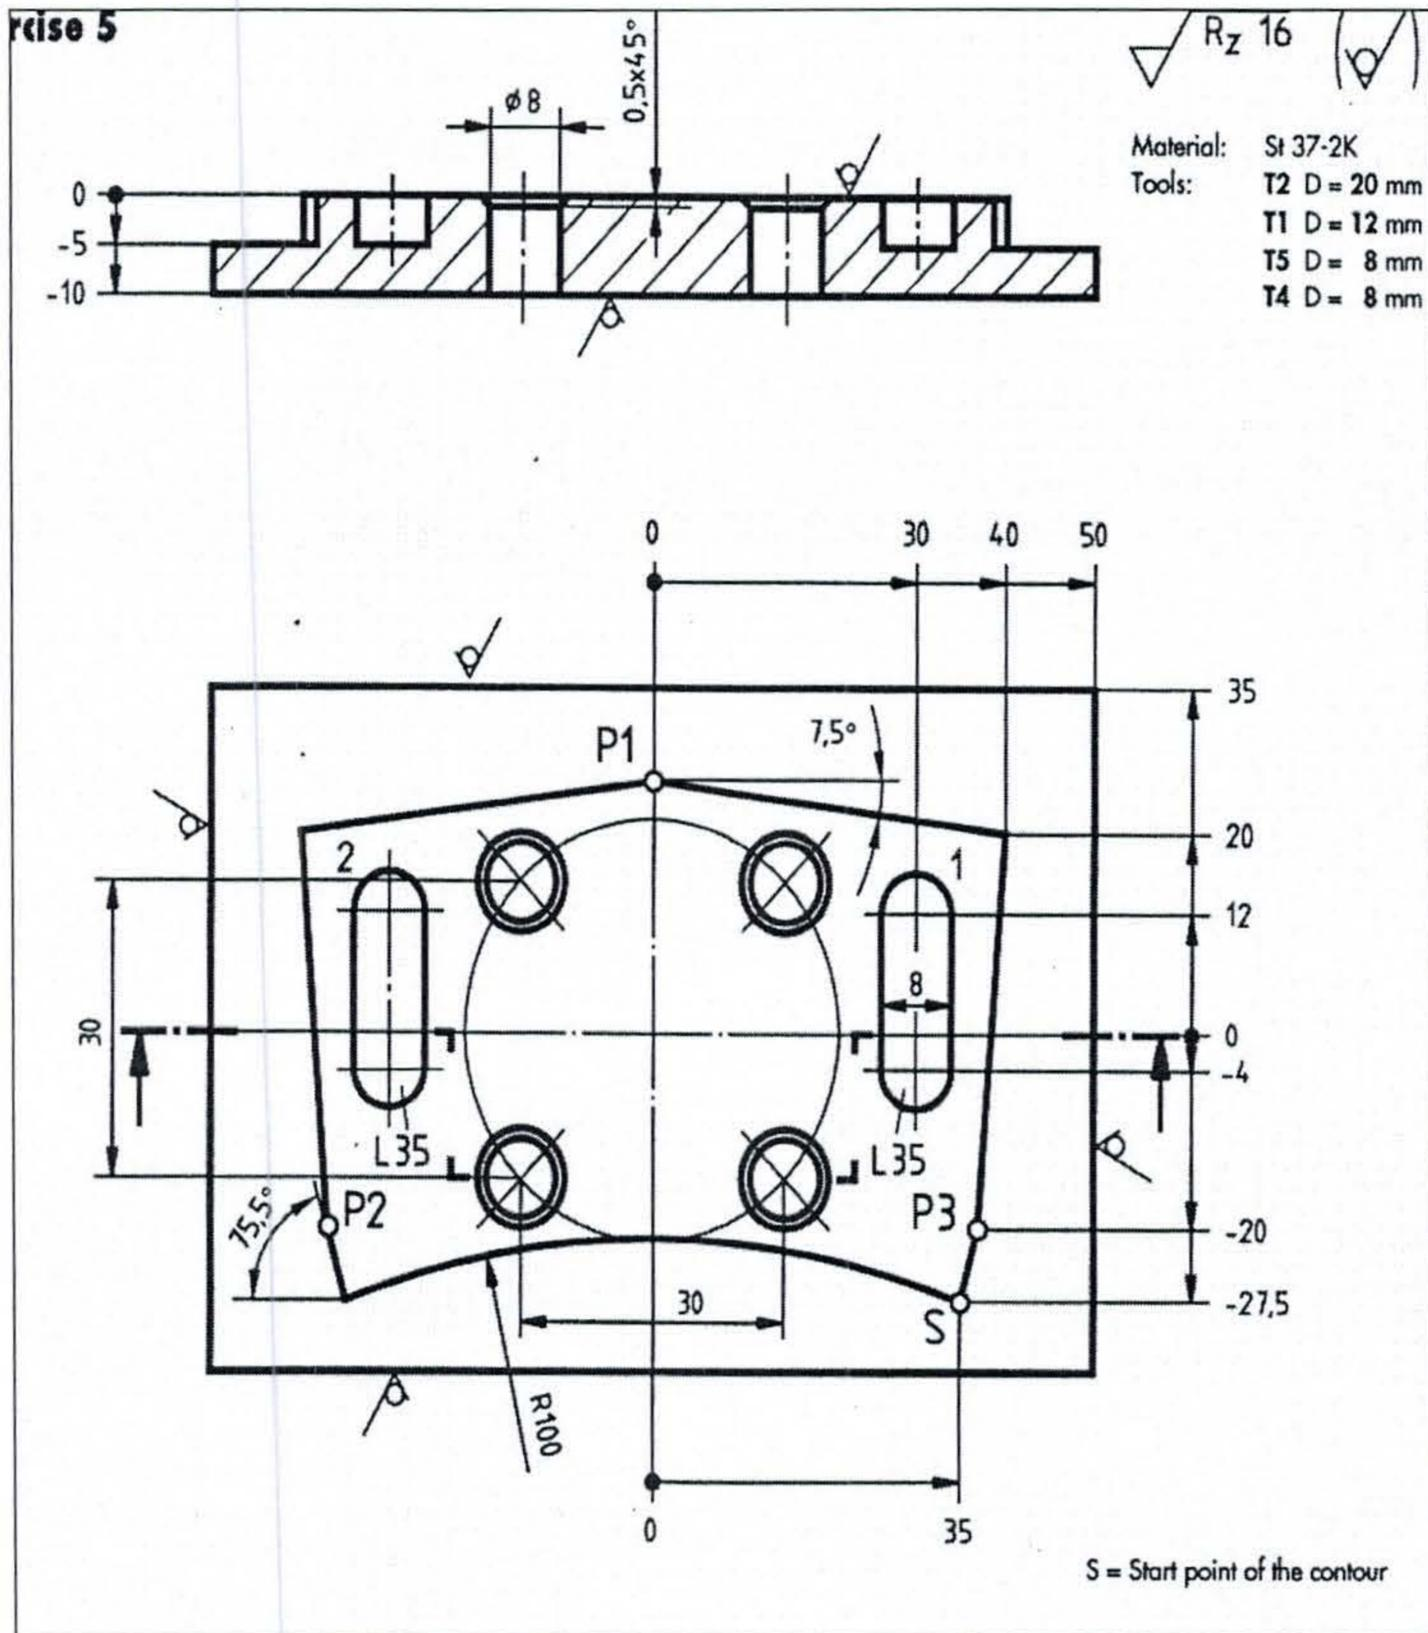

Figure QU4
b) Write a concise part program to machine the component shown in Figure QU4.